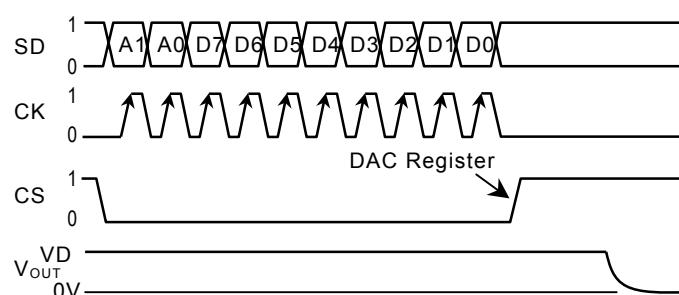
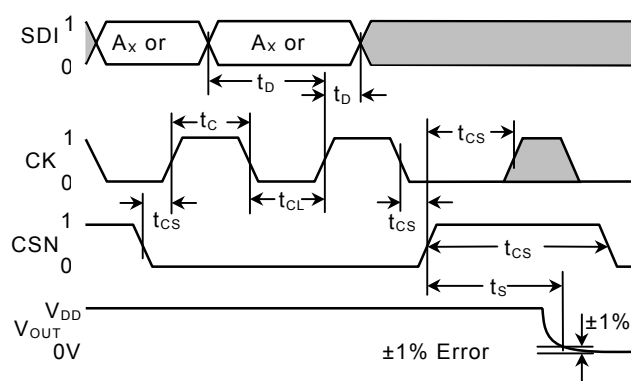

Figure 2: Timing Diagram
Figure 3: Detailed Timing Diagram
Programming of the AS150x is done via the 3 wire serial interface. The three input signals are serial data input (SDI), clock (CK) and chip select (CS). A programming sequence consists of 10-bit, where the last eight bit contain the code word for the resistor value. The first two bits A1 and A0 have to be low (see Table). The data is shifted into the internal 10 Bit register with the rising edge of the CK signal. With the rising edge of the CSN signal the data becomes valid and the resistance is updated (see figure 2). A detailed block diagram is shown in figure 3.